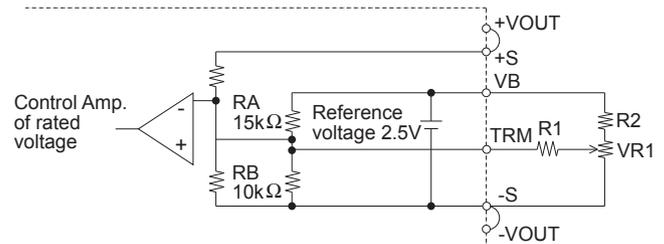

Fig.3.6 Output voltage control circuit
(1) Adjusting method by external resistor
■ By connecting the external potentiometer(VR1) and resistors(R1, R2), output voltage becomes adjustable, as shown in Fig.3.6, recommended external parts are shown in Table 3.3.